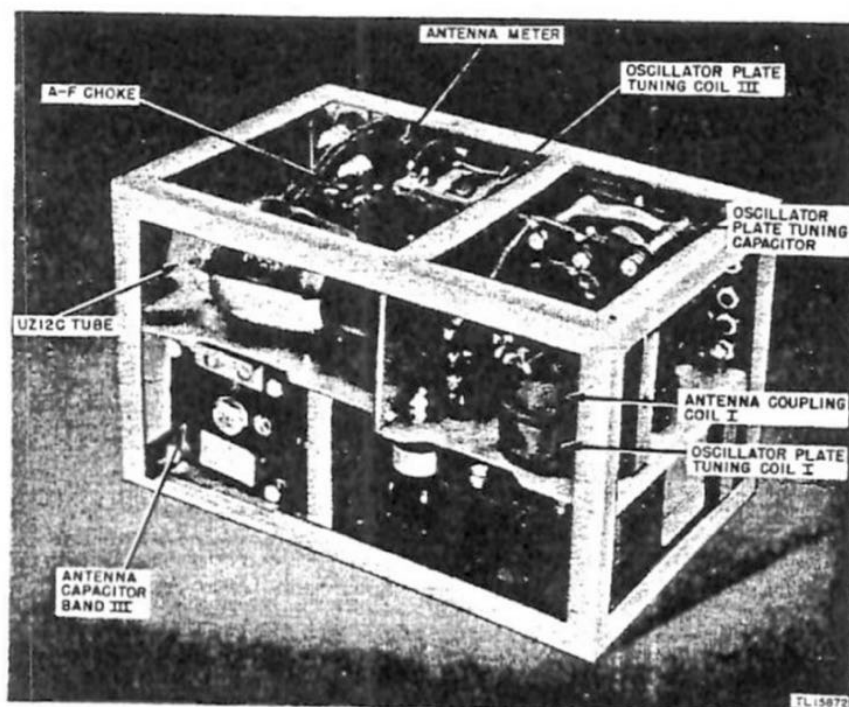

Figure 28. Mark 32 Type Transmitter, left three-quarter view of chassis.
d. Schematic Diagrams. A schematic diagram of the transmitter is shown in figure 26, and a schematic diagram of the receiver is shown in figure 27. As shown in figures 28, 29, 30, and 31 each part of the set is numbered and these numbers appear on the schematic diagrams.